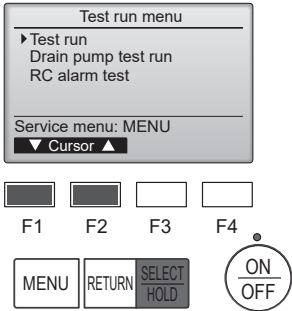

Fig. 7-4
- ④ Select “Test run” with the [F1] or [F2] button, and press the [SELECT/HOLD] button. (Fig. 7-4)